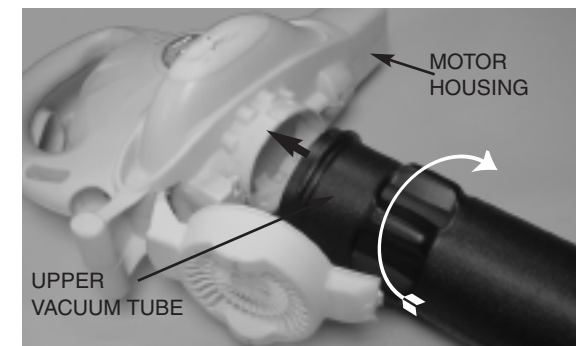

Fig. 6
3. Align the arrow on the upper vacuum tube with the arrow on the motor housing (Fig. 6).
4. Insert the upper vacuum tube into the motor housing. Turn the tube clockwise until the dot on the tube aligns with the dot on the motor housing (Fig. 6).